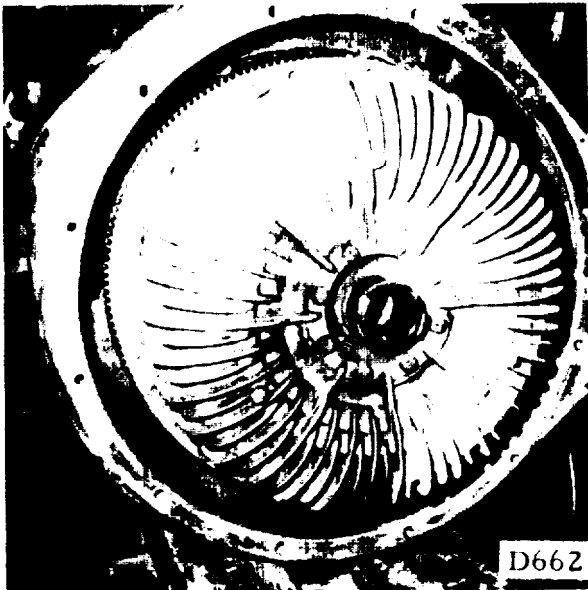

FIGURE 7-3.
**7-3. TORQUE CONVERTER** (see figure 7-3).